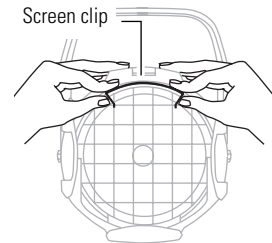

Figure 2
3. Remove the safety screen by squeezing the screen clip with your thumb and forefinger. Pull the screen out (**Figure 2**).
6. Press the spring clip with your finger to release the lens (**Figure 2**).
6. Install the safety screen before using. To install the safety screen, squeeze the screen clip with your thumb and forefinger and place the safety screen in the lens rotation ring. The screen clip must be placed below the retaining clip (**Figure 2**).